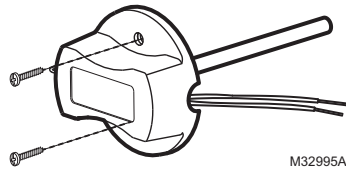

Fig. 67. Mounting Discharge/Return Air Sensor.
2. Drill 1/4-inch hole for the sensor probe and mount it to the ductwork with enclosed screws (see Fig. 67).